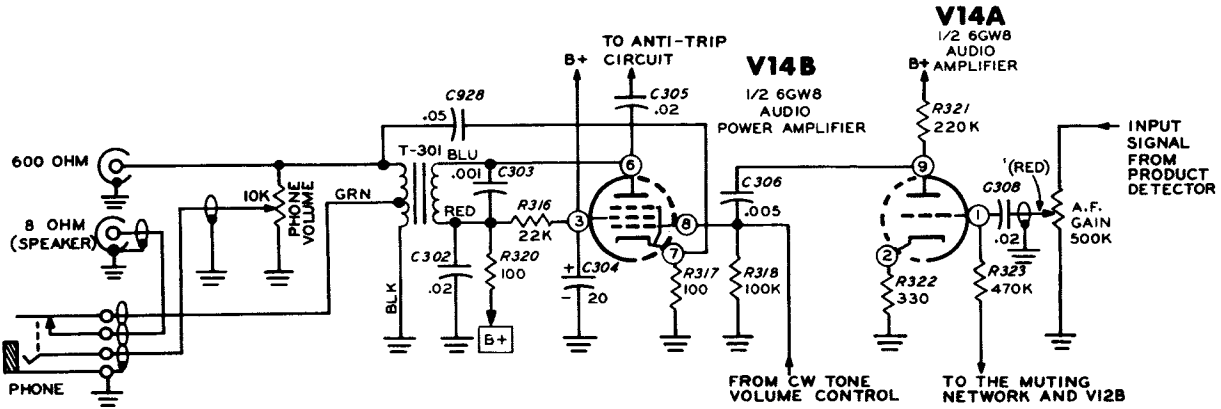

Figure 2-27
**Audio And Power Amplifier (Figure 2-27)**